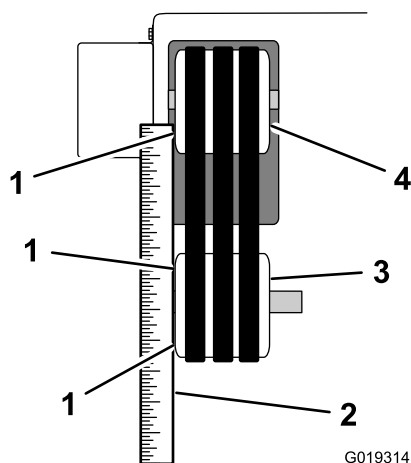

Figure 55
4. Place a straight edge across the face of the drive-shaft pulley and the arbor pulley. Both pulleys must be aligned flush with the straight edge (Figure 55).
- C. Using a soft-face mallet, tap the pulley left or right along the drive shaft until the drive-shaft pulley and the arbor pulley are aligned to the straight edge (Figure 55).